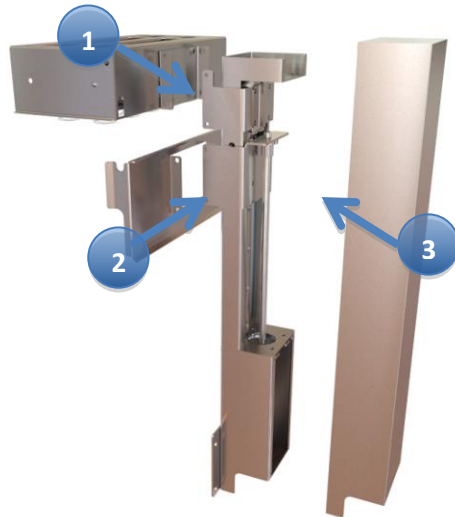

Fig.1
1. Attach the exhaust to the motor lift (arrow 1 in Fig.1). Use the supplied screws and lock washer.
2. Attach the holder to the motor lift (arrow 2 in Fig.1). Use the supplied screws and lock washer.